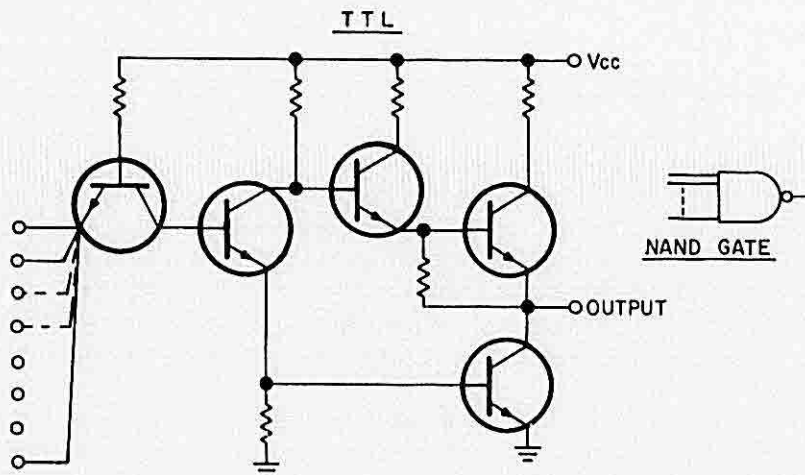

FIGURE 6-1 TYPICAL TTL GATE CIRCUITS
- (1) Transformerless Power Supplies. Test equipment with transformerless power supplies is one source of high current. However, this type of test equipment can be used by employing an isolation transformer in the AC power line.
- (2) Line Filter. It is still possible to damage semiconductors from line current, even though the test equipment has a power transformer in the power supply, if the test equipment is provided with a line filter. This filter may function as a voltage divider and apply half voltage to the semiconductor. To eliminate this condition, connect a ground wire from the chassis of the test equipment to the chassis of the equipment under test before making any other connections.
- (3) Besides the gates and flip-flop, two other commonly used logic elements are inverters and expanders. Inverters are merely switching transistors such that if a logic "1" is the input to a device, a logic "0" will be the output and vice versa. An expander is a set of parallel switching transistors that depends upon another resistor to provide their supply voltage. Generally these devices are used to expand the number of inputs available to a standard gate.
- (4) There is only one type of logic circuitry used in the KT 76/78. This is Transistor-Transistor-Logic (TTL). Typical supply voltage +5.1VDC is used for TTL circuits. Typical gate schematics are shown in Figure 6-1. Basic gates, inverters and JK flip-flops are defined symbolically and functionally in Figure 6-1 thru Figure 6-9.